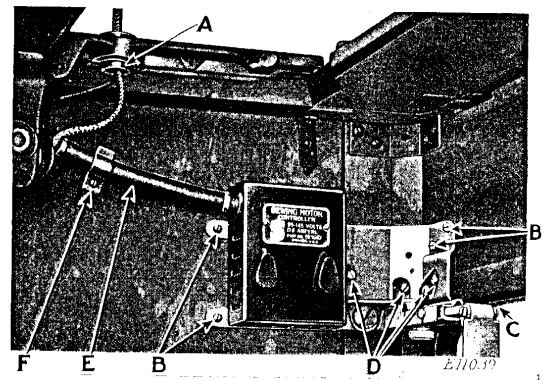

FIG. 2. KNEE CONTROLLER IN CABINET 40
bushing (A, Fig. 2). Remove cable housing (E) from clip (F). Remove the four screws (B). When replacing, fasten knee controller bracket to inside of cabinet by means of the four screws (B). Position the bracket with its openings directly above the